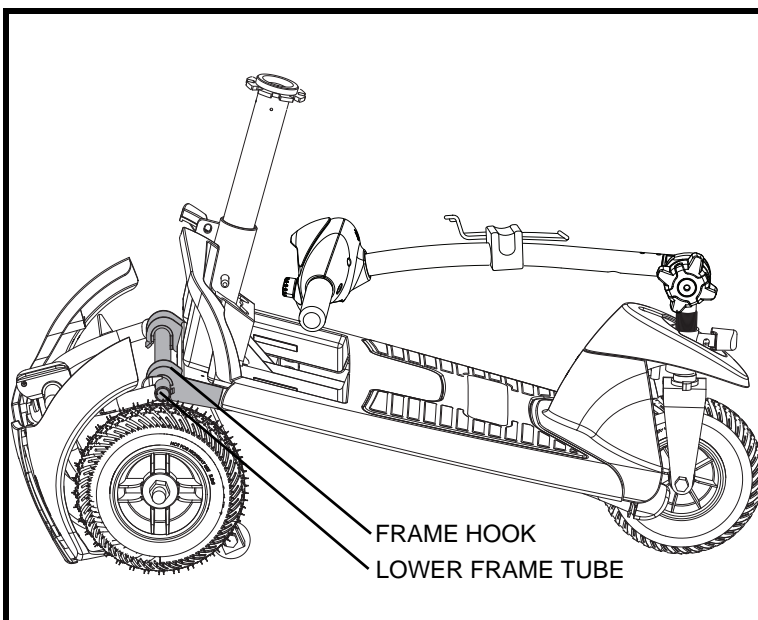

Figure 21. Frame Separation
4. Slowly separate the two sections of the Travel Scooter. **See figure 21.**
NOTE: Before attempting assembly, tilt the rear half of the Travel Scooter slightly back on the anti-tip wheels as show in figure 21.
1. Use the seat post to lift the front section as you align the frame hooks of the front section with the lower frame tube of the rear section. **See figure 21.**